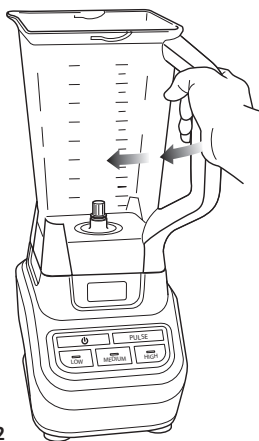

Fig. 2
- 3 Rotate the pitcher to the left as far as it will go. As the pitcher rotates, it will lower and the safety tabs on the bottom of the pitcher will slide under the safety tabs on the top of the motor base. (**Fig. 2**)